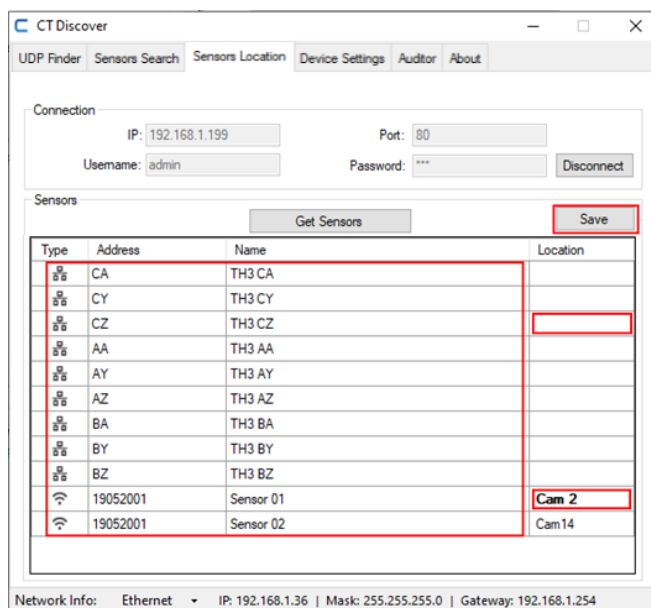

Figure 27 – Sensors location table
3. Click on “Get Sensors” button and wait for Nidus response. The added sensors will appear on table. The first column specifies if is a wired sensor (🔌) or a wireless sensor (📶) (Figure 27).
4. To update a sensor location, click on cell corresponding to location and write the new location. Unsaved locations will be in Bold text format. To save click on “Save” button (Figure 27).